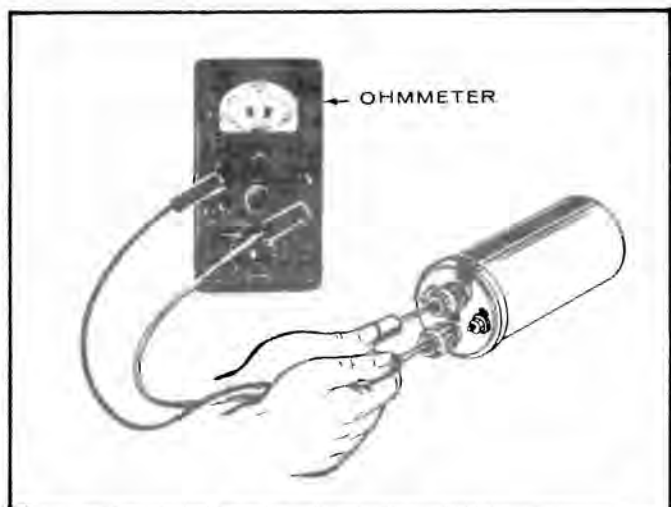

FIGURE 13. COIL TEST
3. Change resistance setting on ohmmeter. Place ohmmeter leads inside of spark plug cable holes (Figure 13). Secondary resistance should read 12,600 - 15,400 ohms.